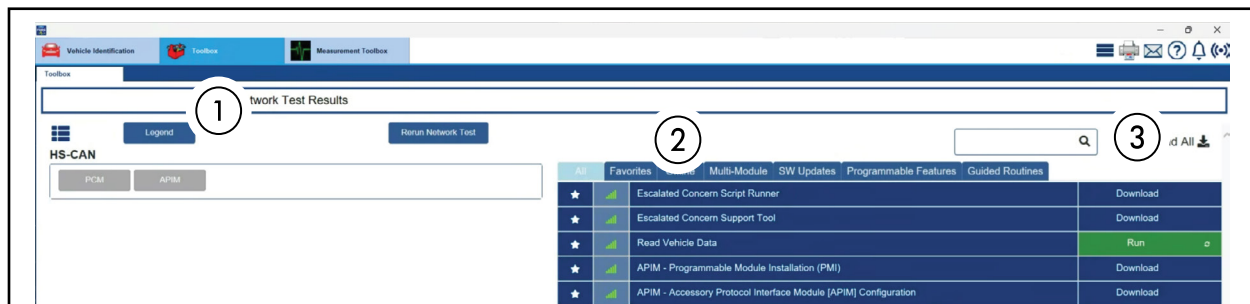

FIGURE 4
25. Select **Toolbox** (1) tab. See Figure 4.
26. Select **All**. See Figure 4.
27. Select **Read Vehicle Data** (2) and then **Run** (3). See Figure 4.